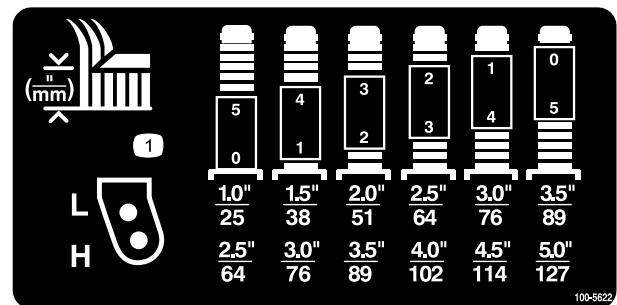
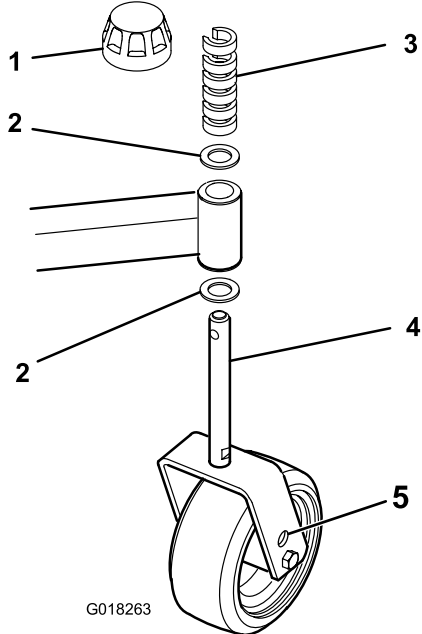

Figure 8
Figure 9
2. Position the castor wheel axles in the same holes in all castor forks. Refer to Figure 7, Figure 8 and Figure 9 to determine the correct holes for the setting.
Refer to Figure 8 to determine the combinations of spacers for the setting.
1. Remove the tensioning cap from the spindle shaft (Figure 9).